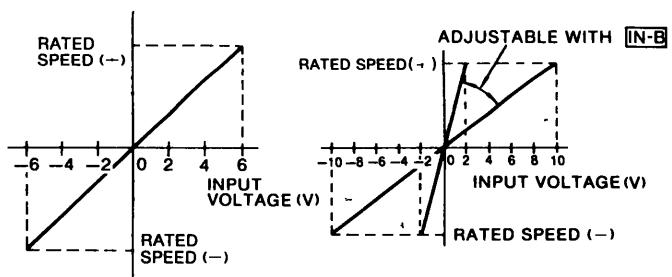

Fig 4.7
Fig.4.7 shows motor speed and input voltage curve when speed reference input terminals 1CN-⑫ and ⑬ are used. With auxiliary input terminals, 1CN-⑭ and ⑮, motor speed can be set to the rating by adjusting [IN-B] potentiometer as long as input voltage is within  $\pm 2V$  to  $\pm 10V$ . See Fig. 4.8.